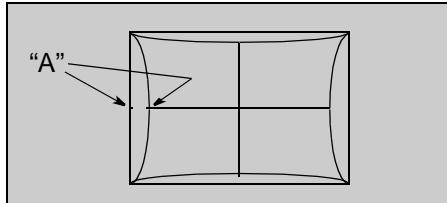

Figure 33. Pincushion Adjustment
4. Adjust DAC PCC (Pincushion) by pressing VOL right/left and confirm that size is  $17 \pm 5$ mm at "A" (See Figure 33)